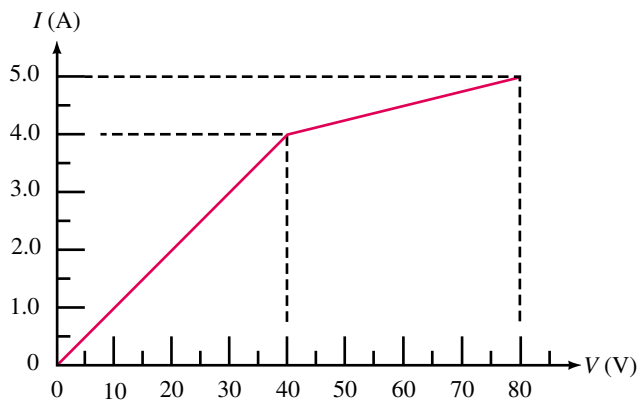

FIGURE 4-41
67. A voltage-dependent resistor has the I - V characteristic of Figure 4-41.
68. For the resistor of Figure 4-41: